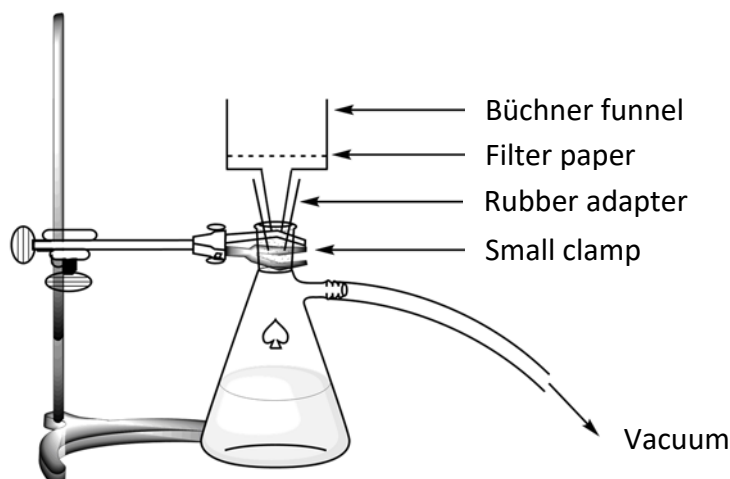

Figure 2. Setup for the vacuum filtration
7. **Set up** a vacuum filtration apparatus (see Figure 2) using a Büchner funnel, a filter paper and a suction flask, that is secured to the laboratory stand with a small clamp. **Raise** your HELP card. A lab assistant will come and show how to connect the suction flask to the vacuum source.